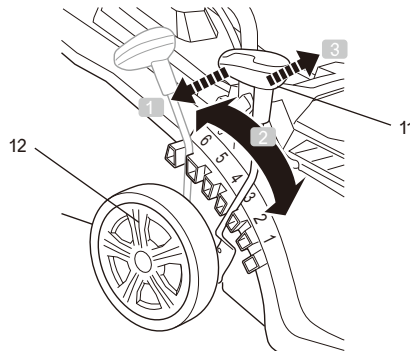

FIG.11
1. Press the lever (11) towards the rear wheel (12) (Fig. 11, step 1).
2. Move forward or backward to adjust the cutting height (Fig. 11, step 2).
3. Release the lever (11) and ensure it's engaged in the slot properly (Fig. 11, step 3).